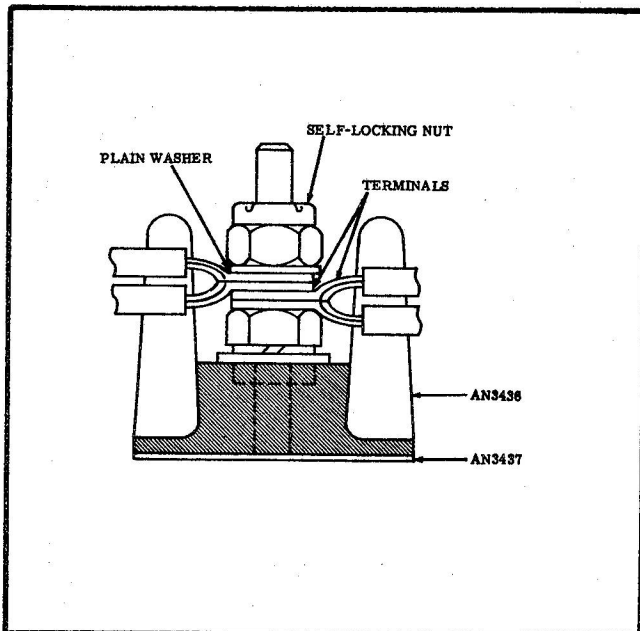

Figure 10 Terminal Strip Installation
- (a) Attach terminals to connector panels (terminal strips) as called for on the wiring diagram. The order in which parts are installed must be shown in Figure 10.